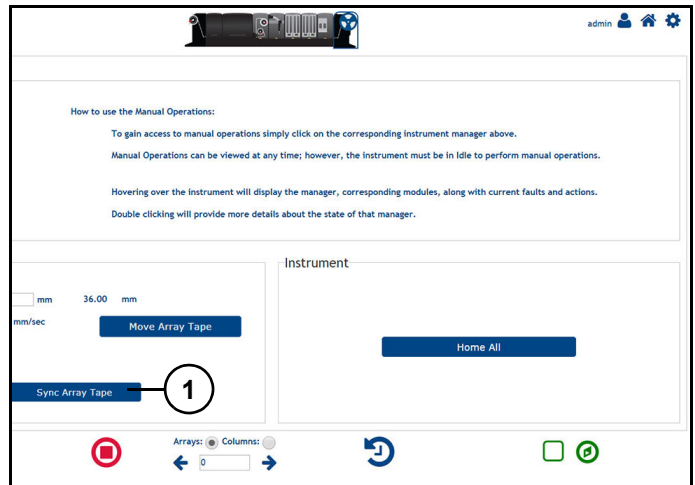

Figure 5
6. Press "Sync Array Tape" (1) (Figure 5).